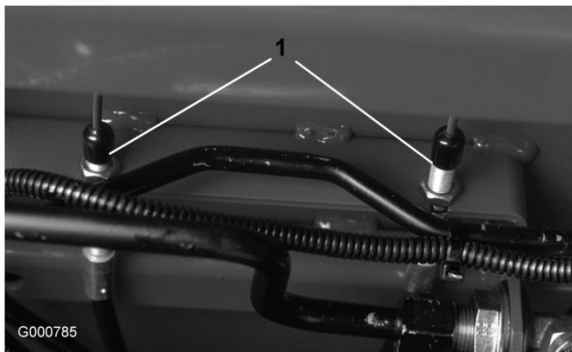

Figure 74
2. To reduce free travel of brake pedals, tighten the brakes by loosening the front nut on the threaded end of the brake cable (Figure 74). Then tighten rear nut to move cable backward until brake pedals have 1/2 to 1 inch of free travel. Tighten front nuts after brakes are adjusted correctly.